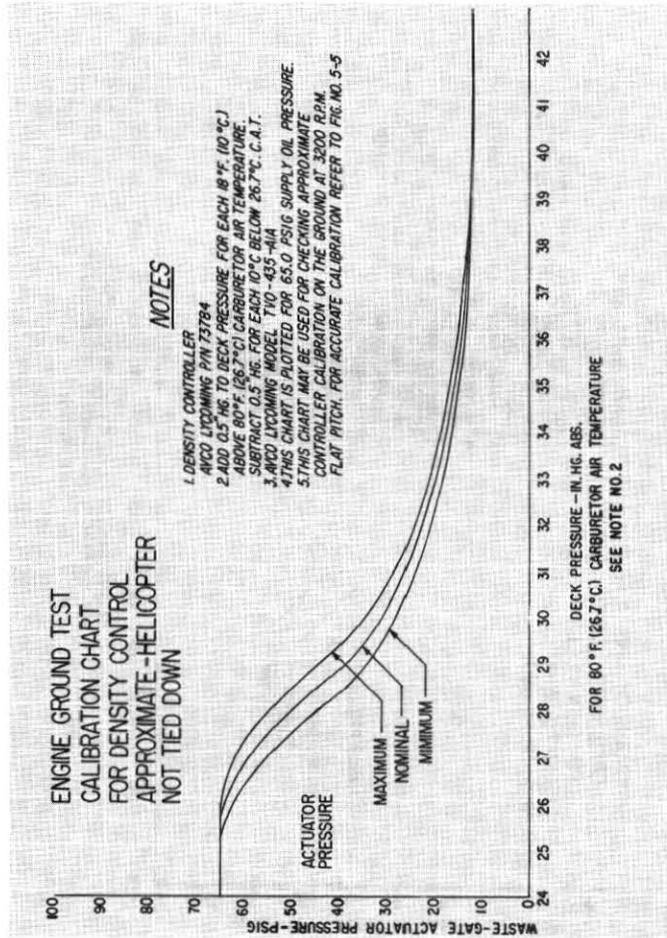

Figure 5-9. Ground Test Calibration for Density Control Approximate - TVO-435-A1A
If conditions do not warrant using the methods described in the preceding paragraph, an approximate density control adjustment can be made as follows. Consult figure 5-9, 5-10 or 5-11 for your particular model.
- (1) Install a 100 psi gage to "Tee" at waste gate actuator inlet.
- (2) Install a 100 psi gage at waste gate actuator outlet.
- (3) Start the engine and operate at 3200 RPM in flat pitch. The actuator pressure must fall within the limits of the curves for the deck pressure developed by the turbine. For example: (Using figures from figure 5-9) If the deck pressure is 30" Hg. and the supply oil within 65 to 75 psi, then the actuator pressure must be between 28.0 and 34.5 psi on the outlet side of the actuator.
- (4) If the actuator pressure cannot be brought within limits by adjusting the Benbow valve, readjust Benbow valve to 70 1 psi, remove hex head plug from end of density controller, insert a screwdriver and turn either clockwise or counter-clockwise as required to bring within limits.